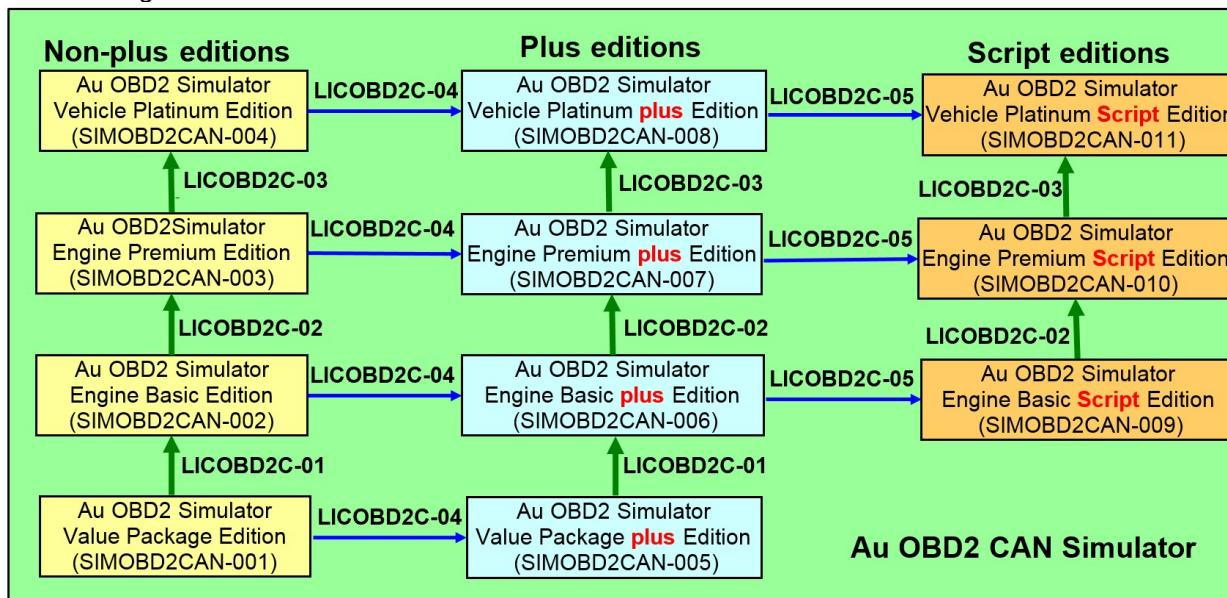

Figure 1 - 7
- 1 DB9 Male "BUS" Interface: For power supply and CAN/OBD2 CAN network connection (Figure 1 – 2)
- 1 RS232 interface: for CAN baud rate setting, Source address configuration, in-field firmware update, license management, and computer remote control (for Plus editions and script editions) (Figure 1 – 3).
Part numbers for license upgrading and annual service for the 11 editions of Au SAE OBD2 CAN Simulator are summarized in Figure 1 - 7.